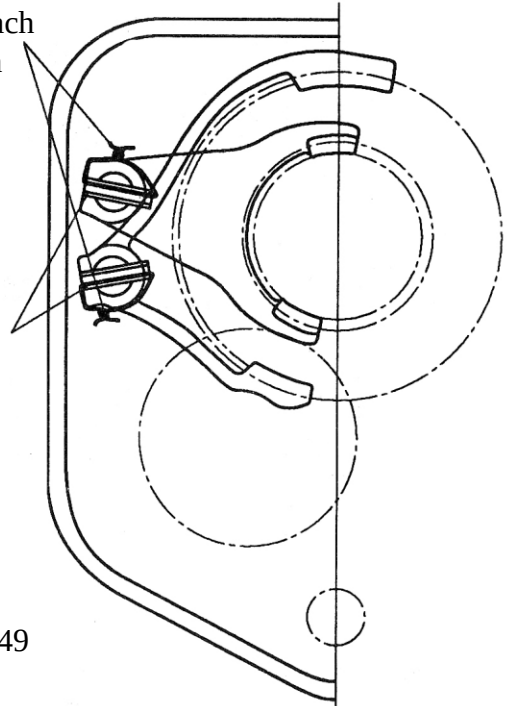

Fig.5-49
- Install spring(roll) pins so that their seams are positioned as illustrated in Fig.5-49
(2) Reassembly of sub-change gears